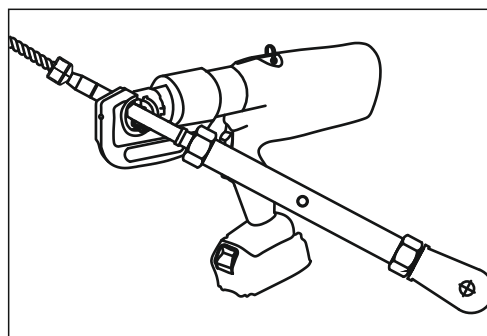

Fig:1
- Selection of the right size of Hex loc die is critical. Ensure that the hex loc Die has dimensions as in the Fig1.
Note1: The size of the Die available on the market nearest to the recommended size in Fig.1 is 50mm²